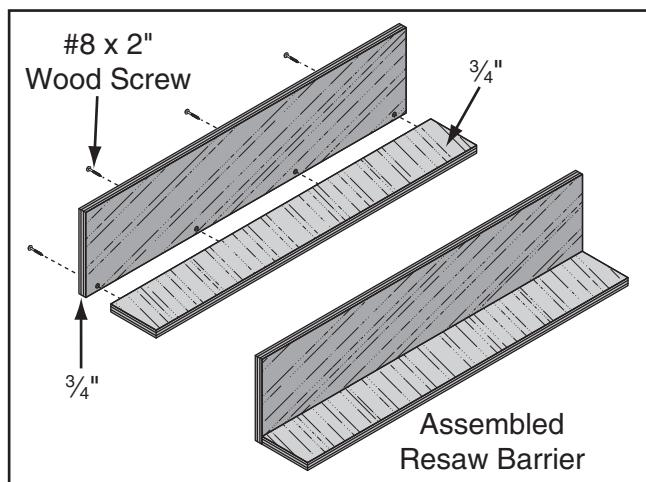

Figure 71. Resaw barrier.
3. Glue end of 3" board, clamp boards at a 90° angle with larger board in vertical position, as shown in **Figure 71**, then fasten together with wood screws.